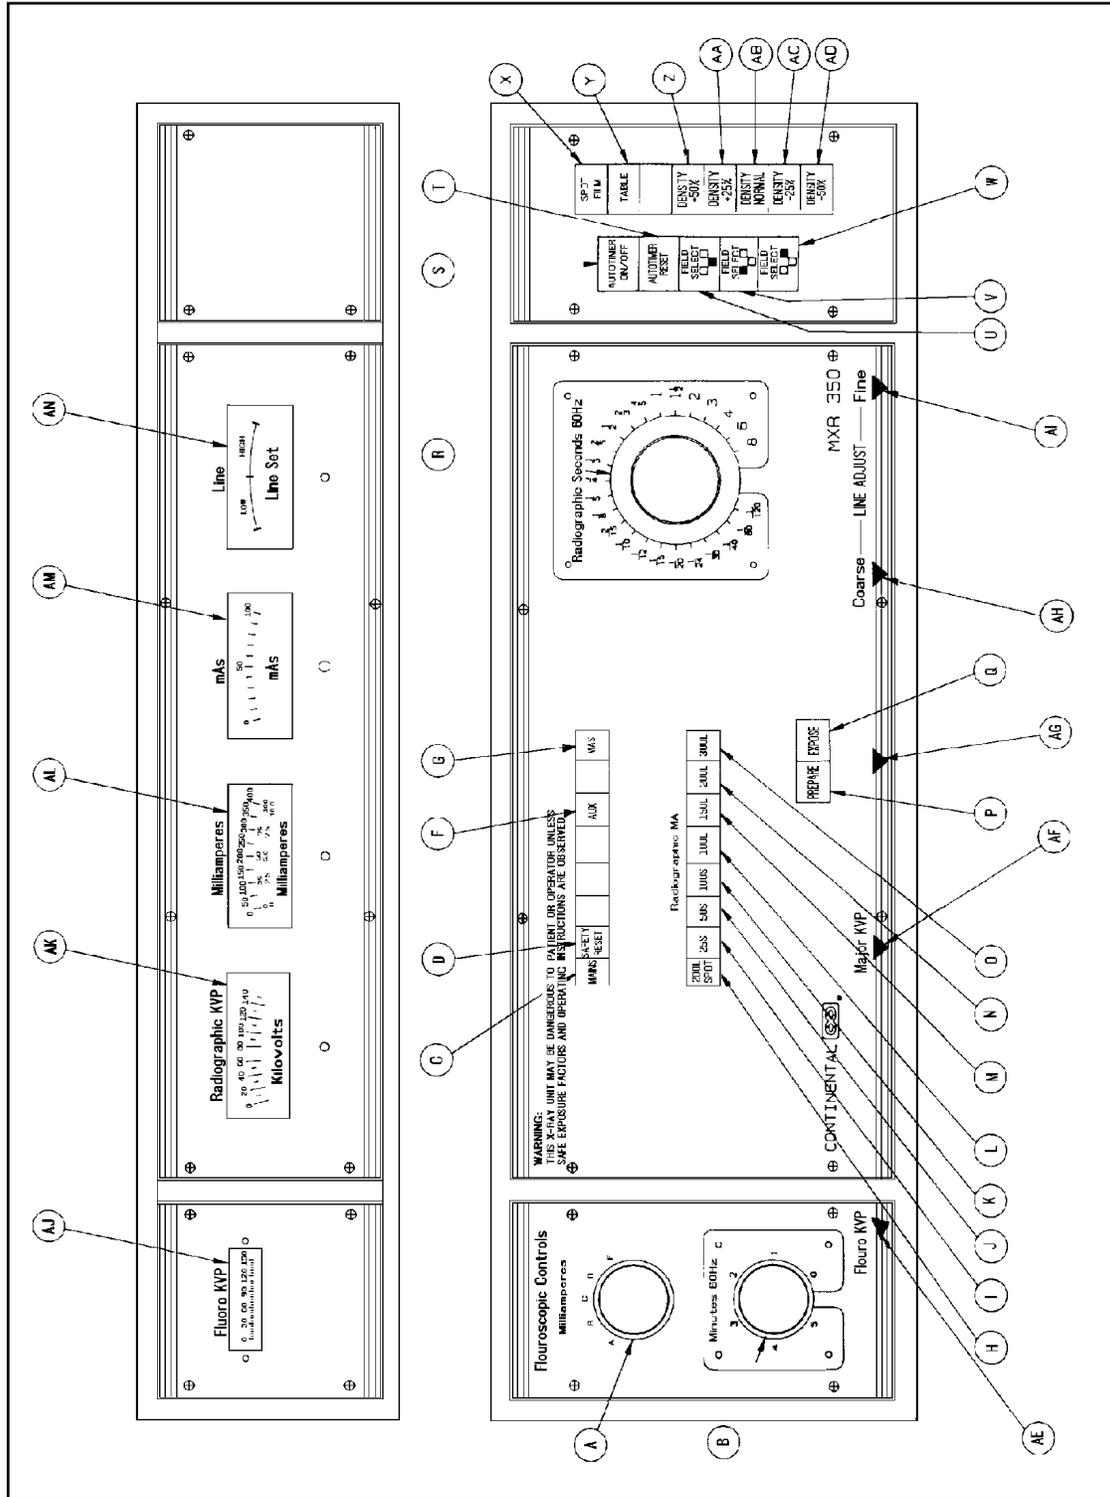

Figure 3-55
- (1) Turn the MAINS off at the main control and open the main control door.
- (2) Remove the four screws holding the dual-sided radiographic seconds select panel. (See Figure 3-55.)
- (3) Rotate the panel until it can be removed from under the knob. (It should not be necessary to remove the knob.)
- (4) Position the desired scale (50 or 60 Hz) of the panel face up and slide the panel back under the knob into the correct position. Replace the panel screws.
- (7) Remove the four screws holding the dual-sided fluoro controls "Minutes" dial. (See Figure 3-55.)
- (8) Rotate the panel until it can be removed from under the knob. Position the appropriate 50 or 60 Hz scale face up and slide it into the correct position. Replace the panel screws.
- (9) Depress the internal "Minutes" switch at the <0> position.
- (10) Listen carefully while slowly rotating the "Minutes" knob back and forth across the <0> mark. If a "click" is heard, the "Minutes" switch <0> cam is correctly positioned.
- (11) If no "click" can be heard, use the following method to reposition the cam: